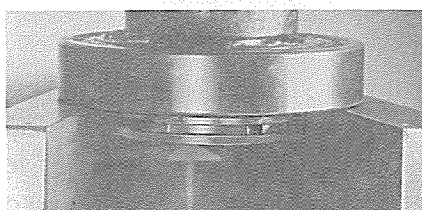

Figure 7
4. Support the bearing and press end cap out of it (Figure 7).